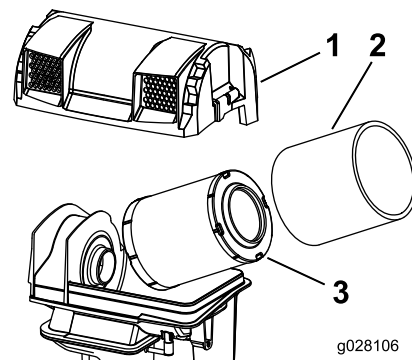

Figure 44
6. Release the latches on the air cleaner and pull the air-cleaner cover off the air-cleaner body (Figure 44).
8. Gently slide the primary filter out of the air-cleaner body (Figure 44).